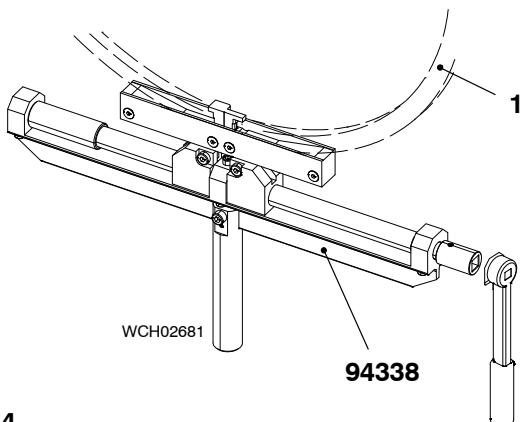
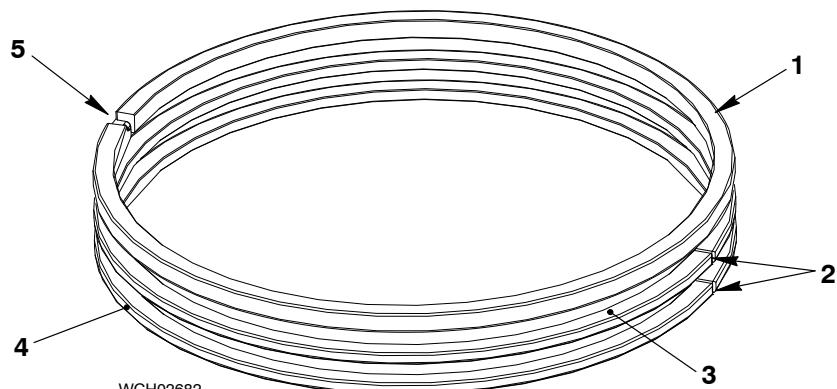

Fig. 4
Fig. 7
- 1) Use the tool (94338, Fig. 4) to remove the top, middle and bottom piston rings (1). Make sure that you do not cause damage to the chrome-ceramic surface.
Note: Make sure that you use the tool (94338, Fig. 4) to install the piston rings.
- 1) Install the bottom piston ring (4, Fig. 7) to the piston head.
- 2) Use the tool (94338) to install the middle piston ring (3) to the piston head.
- 3) Use the tool (94338) to install the top piston ring (1) to the piston head. Make sure that the ring clearance (5) is opposite the ring clearance (2) of the middle piston ring (3).
- 2) Use the tool (94338, Fig. 4) to install the bottom piston ring (4, Fig. 7) to the piston head.
- 3) Use the tool (94338) to install the middle piston ring (3) to the piston head.
- 4) Use the tool (94338) to install the top piston ring (1) to the piston head. Make sure that the ring clearance (5) is opposite the ring clearance (2) of the middle piston ring (3).